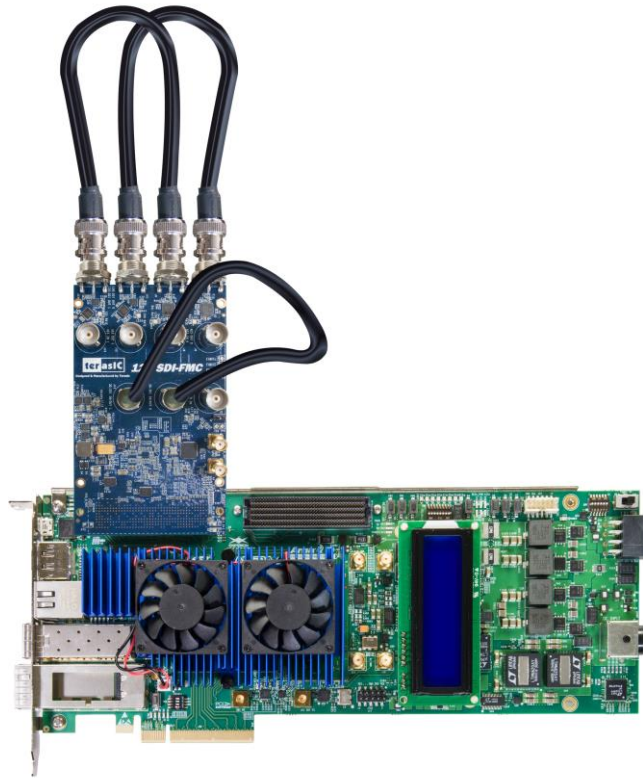

Figure 4-9 Hardware setup of SDI-FMC with A10GFP
Figure 4-9 shows the demo setup of SDI-FMC with A10GFP FPGA mainboard. The SDI-FMC should be installed on the FMC-A expansion header of A10GFP. Use one BNC to BNC 3G SDI Cable to connect BNC port J10 and the BNC port J13. Use one BNC to BNC 12G SDI Cable to connect the BNC port J11 and BNC port 15, and use another BNC to BNC 12G SDI Cable to connect the BNC port J14 and BNC port 8.
2. Make sure the SDI-FMC is installed as shown in **Figure 4-9**.